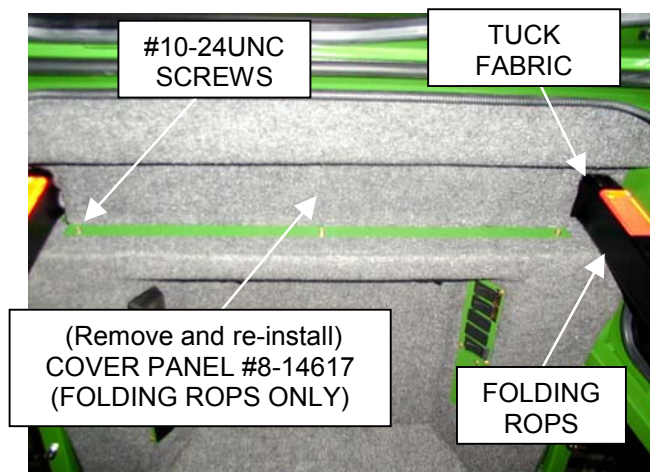

Figure 18
- 15) Note: Tractors equipped with the **taller Folding ROPS** need clearance to the roof shell area from inside the cab. Remove the ROPS cover panel 8-14617. The poly-fabric will have a factory pre-cut slot to allow the **Folding ROPS** to fit into the roof shell area when cab is lowered on to the tractor. Refer to Figure 18.
- 18) If cover panel 8-14617 was removed, re-install and secure with (6) 10-24unc screws. See Figure 18.